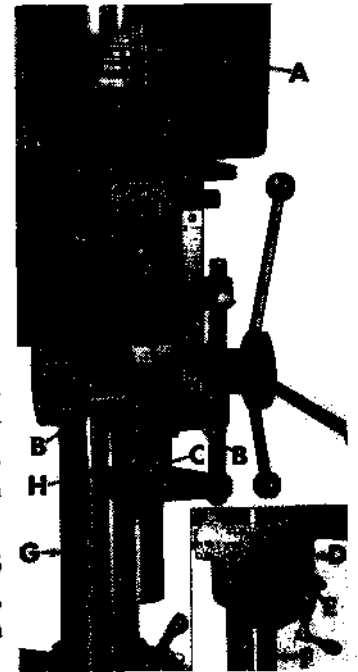

Figure 2
1. **SPINDLE PULLEY DRIVE** — use a light grease occasionally on spindle splines (A, fig. 2).
2. **LOWER QUILL BEARING (C)** — lubricate daily with a few drops of S.A.E. No. 20 oil. (All other ball bearings in head are lubricated-for-life.)
3. **FEED SHAFT (B)** grease weekly with No. 1 bearing grease — fittings under head.
4. Keep **QUILL (H)** and **COLUMN (G)** covered with a light film of oil.
5. **TABLE LIFT SHAFT (E)** — oil once a week with S.A.E. No. 20 oil.
6. **LIFT RACK (F)** — lubricate regularly with S.A.E. No. 20 oil. Before oiling, clean rack with kerosene.
7. **TABLE LIFT GEARS (D)** — once a year, clean and repack with gear grease.